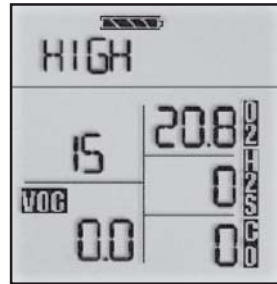

Figure 8:
4.1 Combustible Gases (% LEL) (Figure 8)